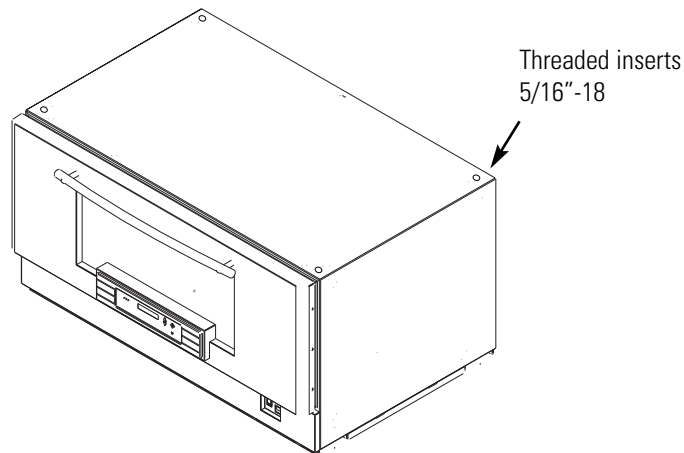
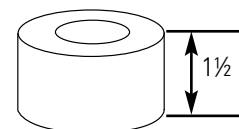

Figure 1-10. Exterior Top of Unit
Figure 1-18. Spacer
Caution Do not lift with forklift or other lifting device near the center of the unit base. Damage to the shaker mechanism mounting may occur. When lifting from the base, position the lifting device as close as possible to the leveling feet. Whenever possible, lift the unit by the four threaded inserts (Figure 1-10). Do not attempt to lift two units by the threaded inserts. The inserts are provided to lift and position only one unit at a time. ▲
2. Place the 1-1/2 inch tall spacers (Figure 1-18) over the threaded inserts in the top four corners of the bottom unit (Figure 1-10).
3. Using the appropriate lifting device, carefully raise the unit to be stacked and remove all (4) the leveling feet.